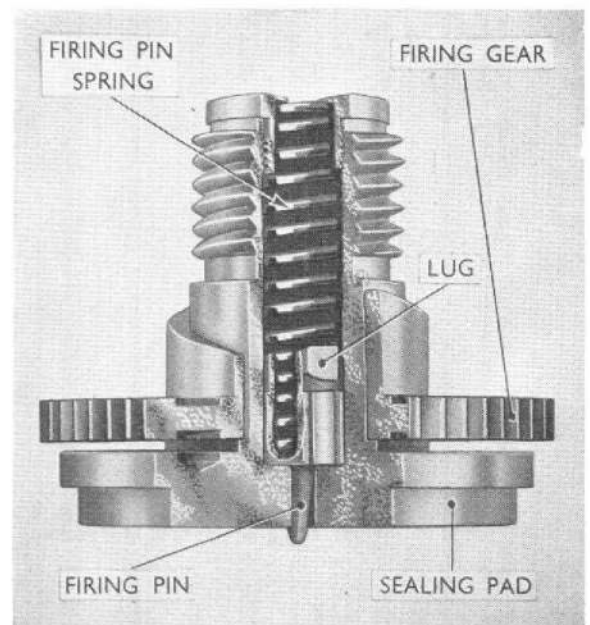

Fig. 8. Firing mechanism shown partly sectioned
- (1) Observe that the lugs of the firing pin are at the lowest position of the cam track as illustrated in fig. 8. The firing gear may be rotated relative to the sealing pad to obtain this condition.
- (2) Using cap-key (MK 3843) unscrew and remove the end-cap and withdraw the firing spring and firing pin.